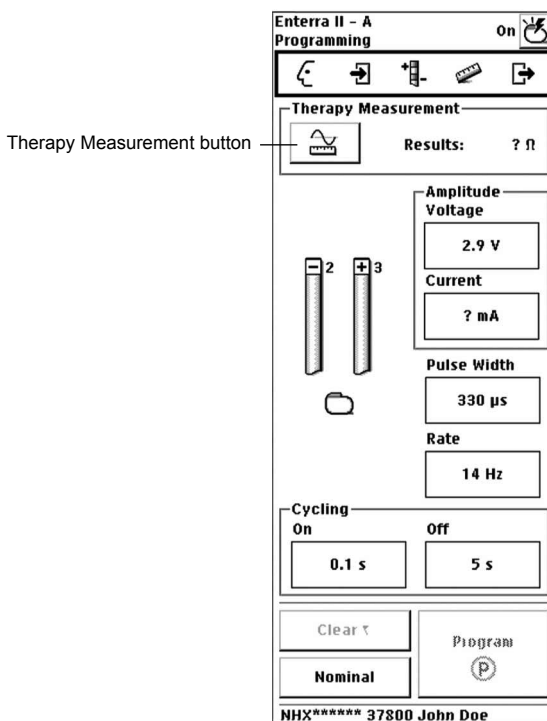

Figure 18. Therapy Measurements screen.
3. Select the **Therapy Measurement** button (Figure 18).